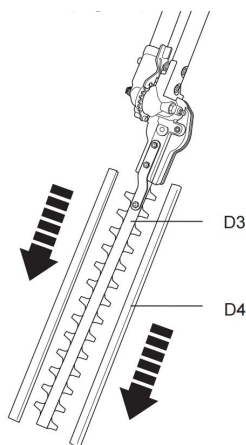

Fig. 23
1) Remove the blade covers (D4) from the blade (D3) before operation (Fig. 23).